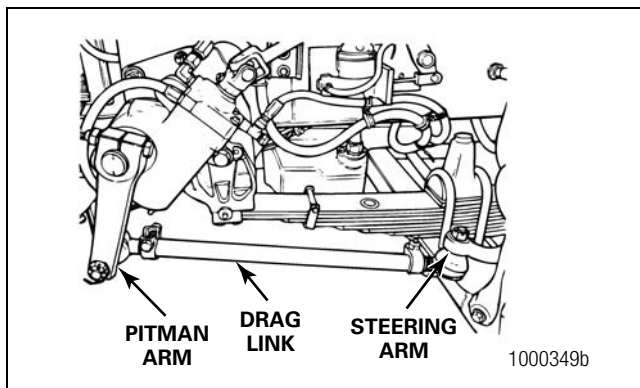

Figure 4.7
Refer to the vehicle manufacturer's procedures to remove the drag link. Figure 4.7.
1. Remove the cotter pin and nut that fasten the steering arm to the drag link. Disconnect the steering arm from the drag link. Figure 4.7.